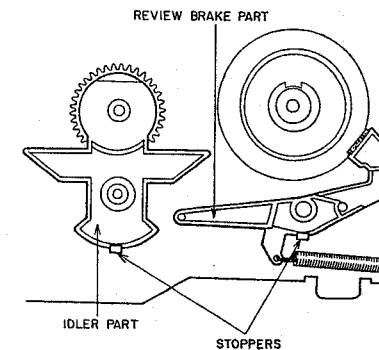

Fig. 3-18
- 2) Release the stopper of IDLER PART as shown in Fig. 3-18, then remove it.